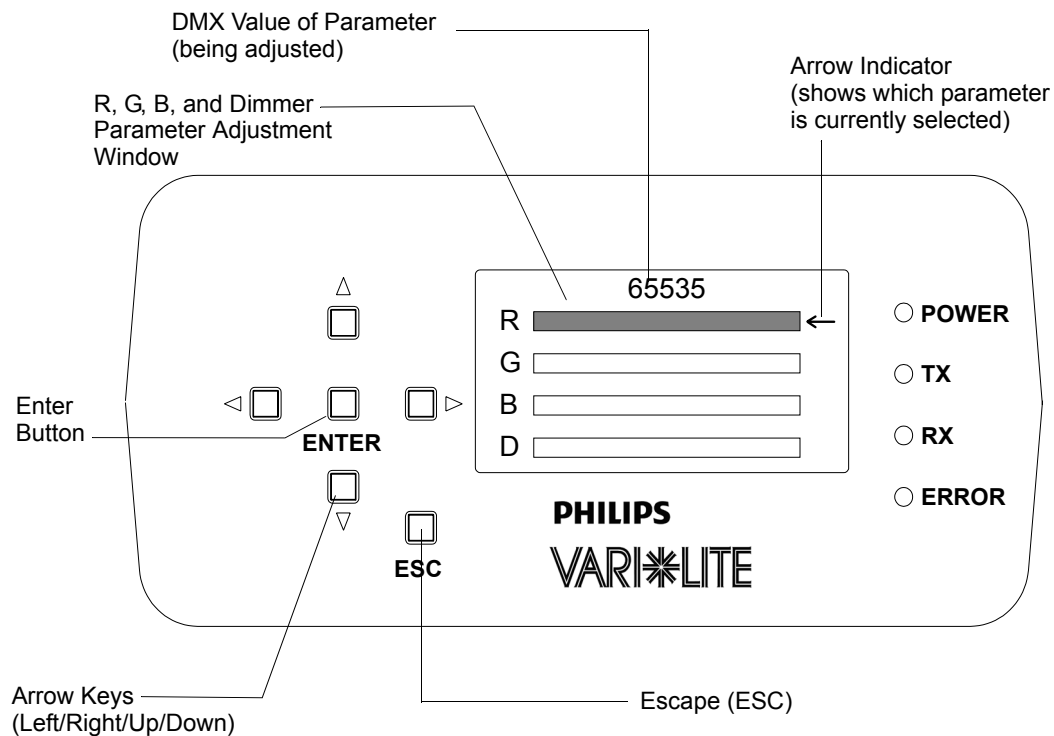

Figure 3-1: Manual Color Adjustment through Luminaire Menu System
As shown in Figure 3-1, a window will appear in the LCD Display that will allow access to Red (R), Green (G), Blue (B), and Dimmer (D) parameters that can be adjusted as desired.